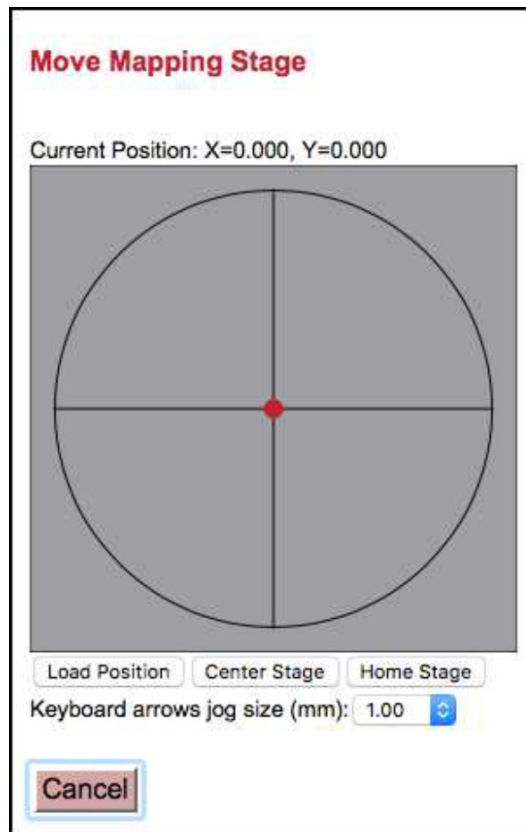

Figure 3: Moving the stage
7. In the stage mapping (see fig.3), move the stage by clicking the desired position in the grey box. Alternatively, move the stage using the keyboard arrows.